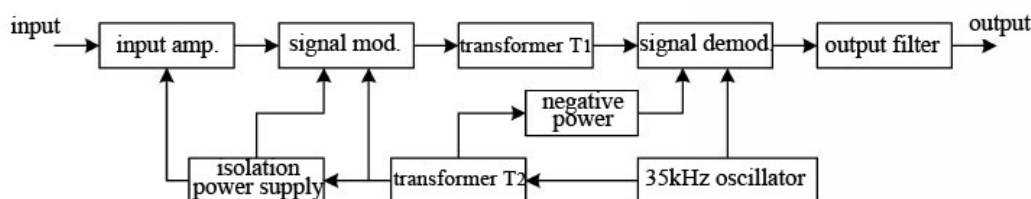

Fig. 2 Circuit block diagram
5. Circuit block diagram (Fig. 2)